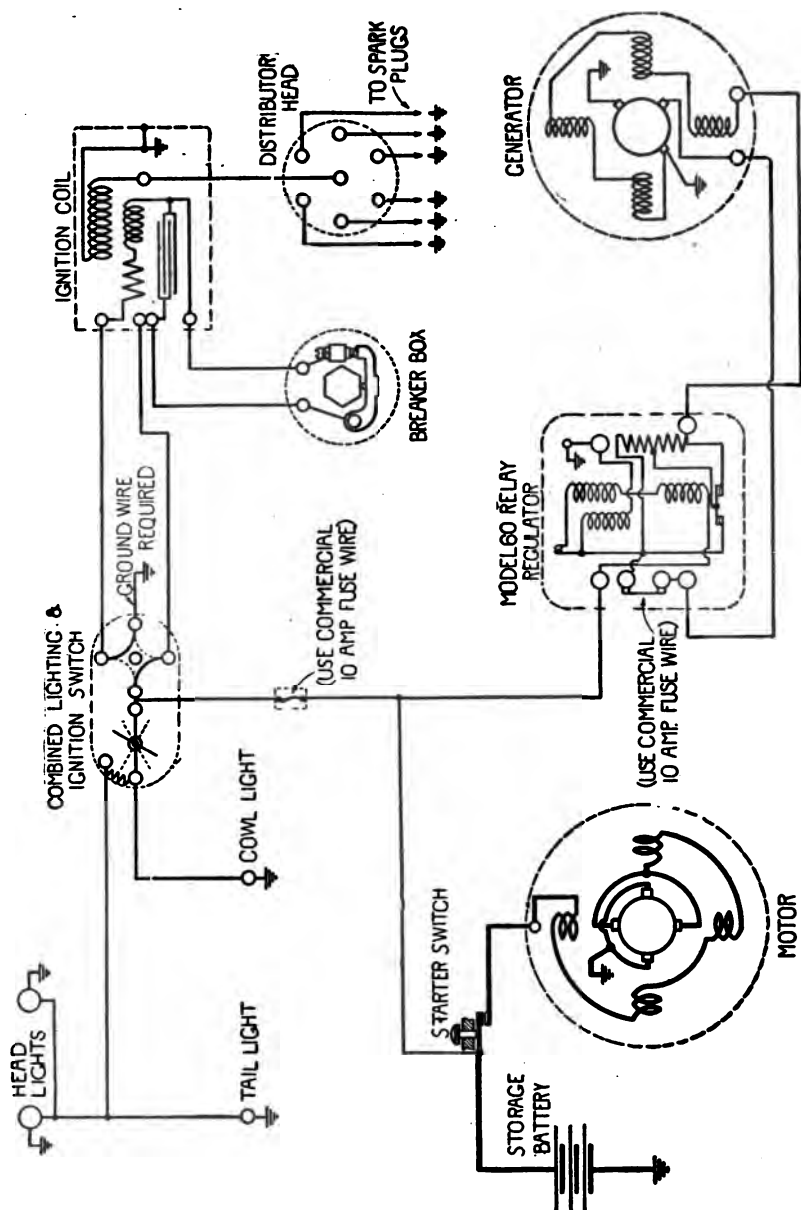

Fig. 317. Wiring Diagram for Remy Installation on the Oakland, Model 32
*Oakland.* The Remy installation on Oakland Model 32 is shown in Fig. 317. The chief distinction between this and the previous diagram is the employment of a single 10-ampere fuse on the lighting circuits instead of independent fuses on each circuit. "Breaker box" refers to the ignition-circuit contact-breaker, or interrupter, as it is variously termed. The starting motor in this case is fitted with the Bendix drive.